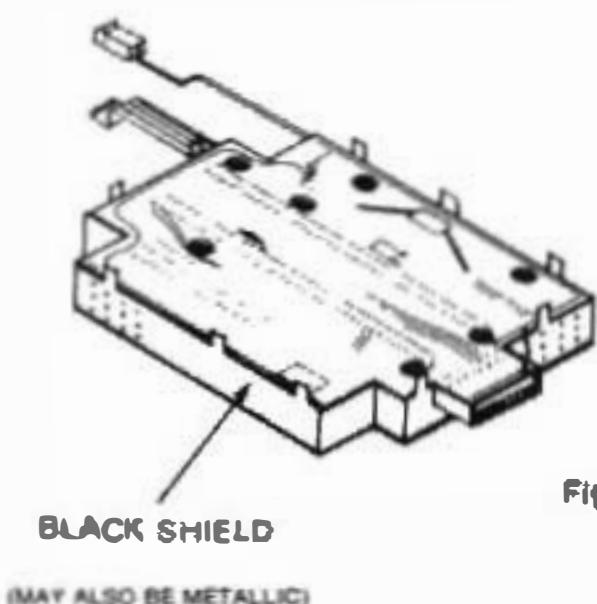

Figure 4-10
(1) Refer to Figure 4-10. Carefully unsolder and remove logic board shield.
(2) Inspect circuit board for evidence of broken or peeling circuit traces
(3) Inspect components on circuit board for evidence of chartering, swelling, arcing or shorting.
(4) Inspect connectors for bent, broken or missing connector pins.
(5) Make sure all sockets mounted ICs are fully seated in sockets. Make sure all heat sinks on ICs U1, U2 and U3 are securely attached to the ICs.
(6) Inspect all jumper wires for evidence of burned or frayed insulation. Make sure all jumper wires are securely soldered to circuit board.
(7) Make sure that connector J5 is securely attached to wire.
(2) Support the circuit board so that it will not move or cause the soldering iron to strike other components.
(3) Install new components in the same position as they were removed.
(4) Inspect and test all re soldered connections.
(5) Use desoldering equipment, such as a solder vacuum, when unsoldering components.
(6) Use a heat sink on semi-conductor leads when soldering or unsoldering in the area.
(7) Remove excess solder, solder splatter and rosin splatter after repairs are completed.
(8) Remove socket mounted ICs by carefully prying out of socket with a small screwdriver.
(9) Install socket mounted ICs by bending IC pins into position over socket holes, and applying firm, even pressure to IC.
(10) Replace jumper wires with wire of the same gage.
(11) Reinstall logic board shields as illustrated in Figure 4-10.